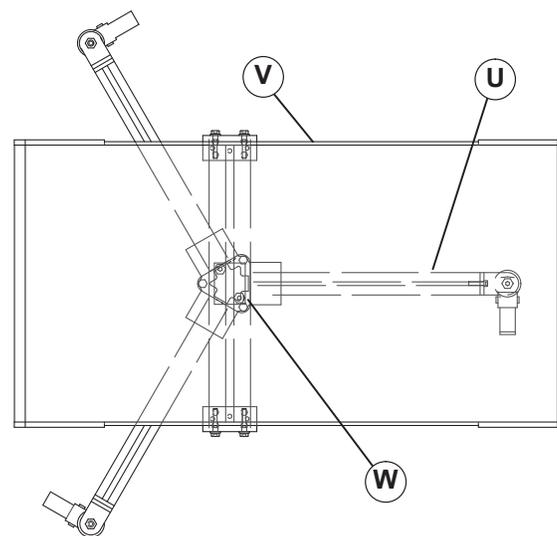

Figure 4
One stand leg (Figure 4, item U) must be oriented parallel to conveyor (V). Use t-slot (W) for connection to support stand.